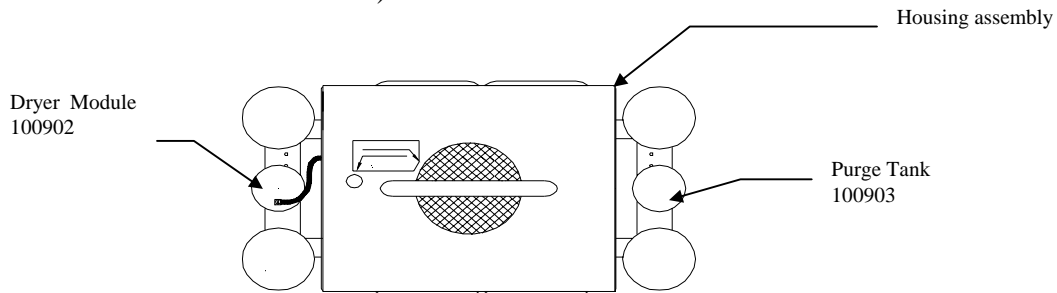

Figure 2
- The air-drying system consists of a dryer module and a purge tank. The dryer module is the small center tank that has a black air line attached to the top. The drying module's main purpose is to extract any moisture that may exist within the system and deliver dry pressurized air to the main air line. The purge tank is the center tank located on the opposite side of the dryer module. The purge tank's purpose is to dry the crystals in the dryer module canister (figure 2).